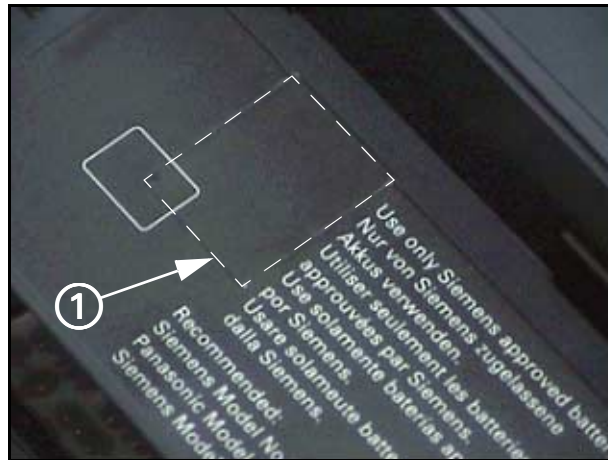

Figure 3-12 Securing Screw Access Cover
1. With Intermediate Subassembly removed from rear housing (refer to Section 5.11), remove and save screw (located in back of battery compartment under label, ① in Figure 3-12) that secures Main Processor Subassembly in rear housing.